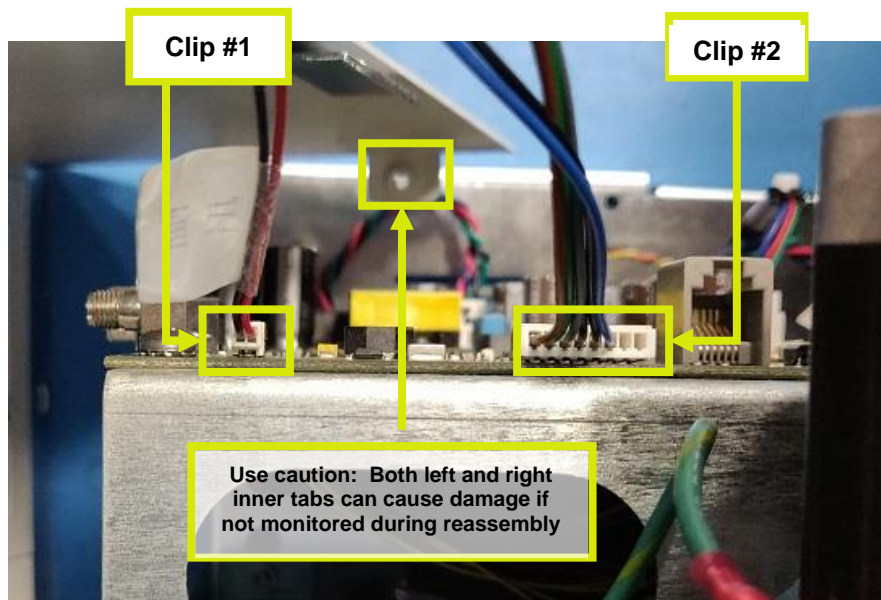

Figure 17
15. Attached the two cable wires leading from the printer to the main electronics board. Place the panel in a leaning manner to account for the inner tabs, avoid damaging any components inside the analyzer. Figure 17